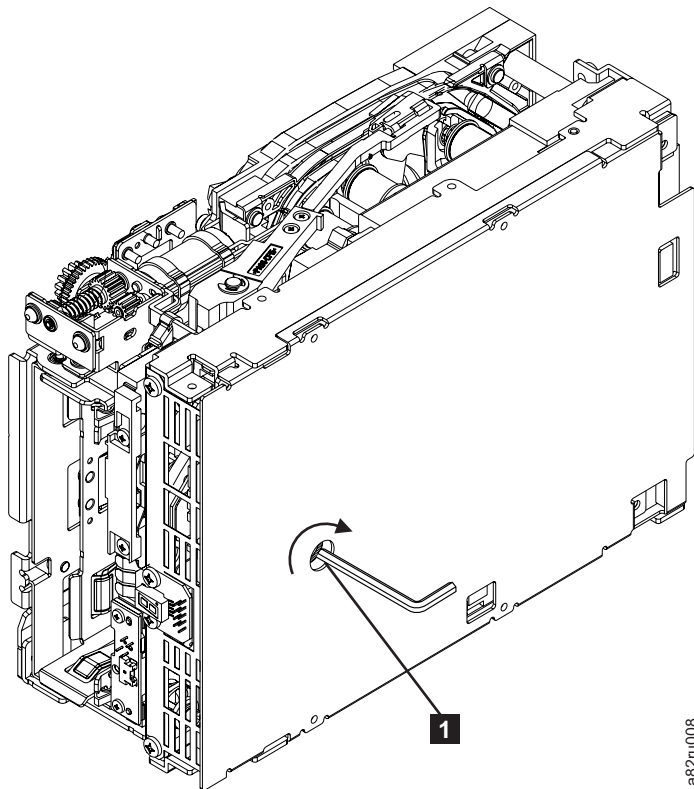

Figure 169. Using hex wrench to rewind tape into cartridge
6. From the bottom of the drive, locate the access hole ( **1** in Figure 169) in the bottom cover. Insert a 2.5 mm offset hex wrench through the bottom cover access hole and into the reel motor axle. begin spooling tape back into the cartridge by turning the hex wrench clockwise.